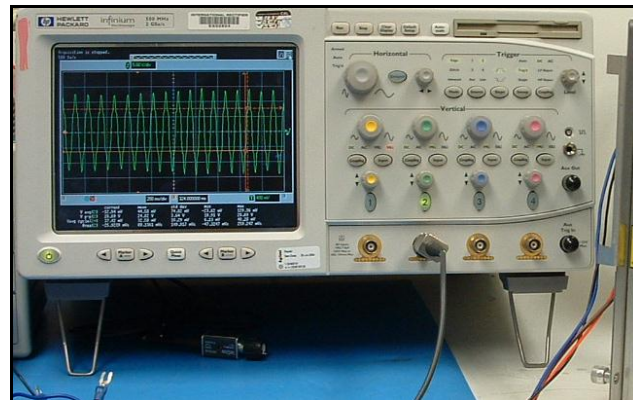

Figure 4—Measuring the Back EMF.
4. Motor Back EMF Constant (K_e)—Again connect two phases of the motor to an oscilloscope. Turn the motor at a constant rate and record the waveform as shown in Figure 4. (When the motor is turning at a constant speed, the back EMF waveform's peaks will all have the same magnitude.) To calculate the back EMF constant, begin by finding the rms voltage and the frequency (in Hz) of the waveform, then perform the following calculation: